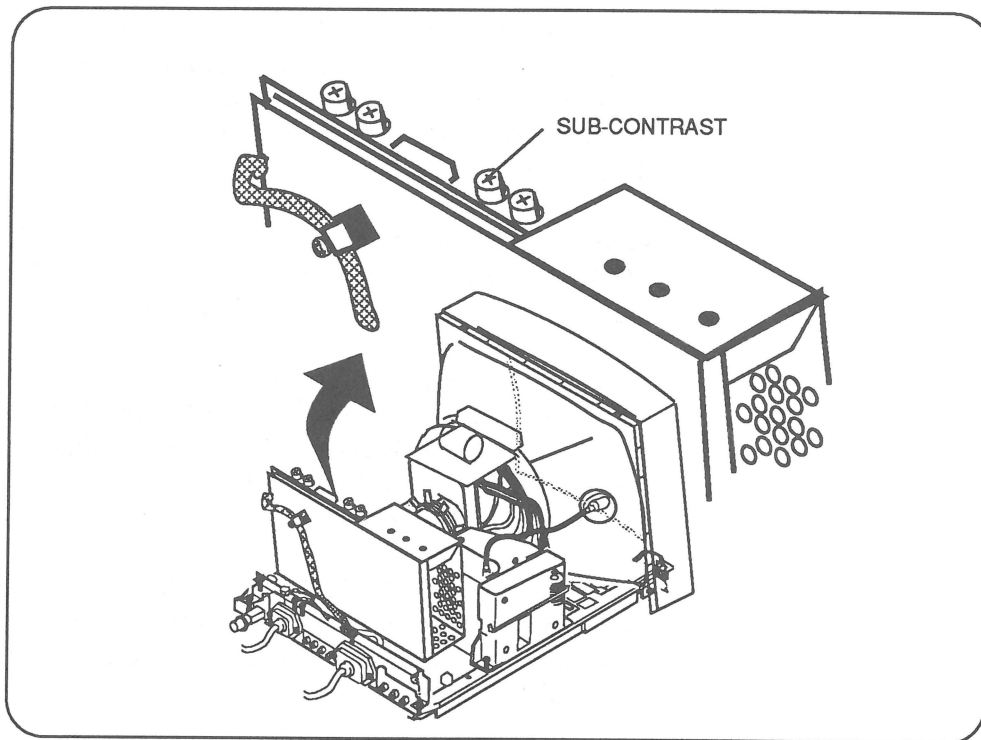

Figure 3-18 SUB-CONTRAST Control
15. **Figure 3-18.** Now adjust the SUB-CONTRAST control (VR201) clockwise or counterclockwise until the center of the all-white screen measures at the top of the "10" scale on the light meter.